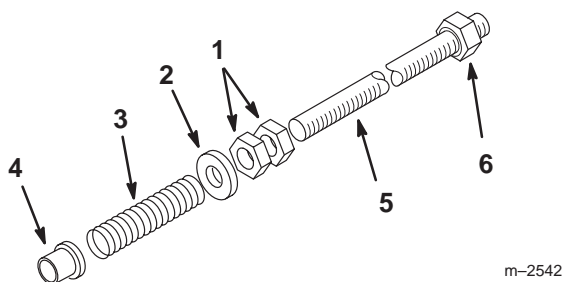

Figure 6
4. Thread jam nuts (2 1/2 in) approximately 9 in (22.8 cm) up on each adjusting shaft (Fig. 6).
Note: Install the bushing with the flange end against the spring (Fig. 6).